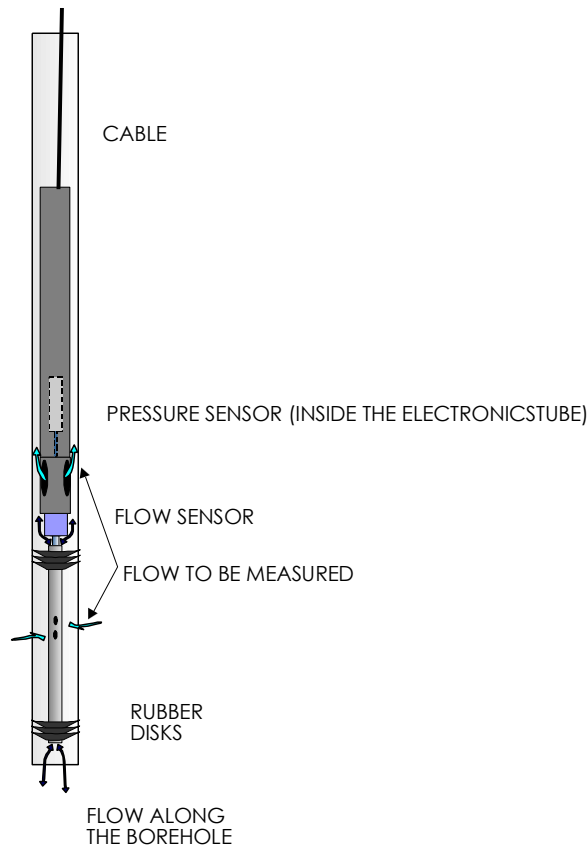

Figure 2. The absolute pressure sensor is located inside the electronics assembly and connected to the drillhole water through a tube.
- The prevailing water pressure profile in the drillhole. Located inside the watertight electronics assembly, the pressure sensor transducer is connected to the drillhole water through a tube, see Figure 2.